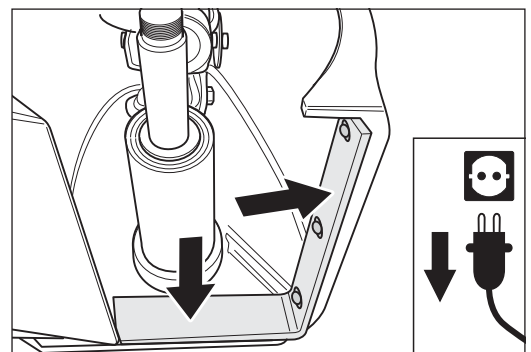

Fig. 47 Ensure that the sealing felt is not worn or damaged! **Similar to figure.**
- Ensure that the sealing felt is not worn or damaged (Fig. 47)!